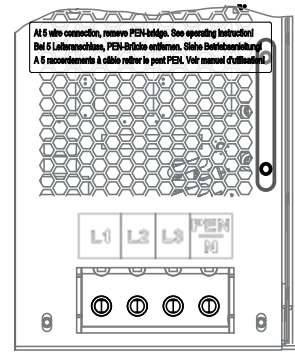

Figure 27: 4-pole connection
- 1. Connect cables in accordance with the labels on the PCB terminals (Figure 27).